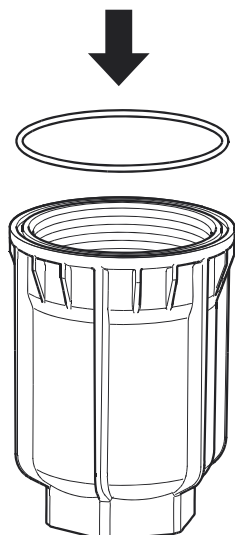

Figure 19 Replace O-Ring
8. Replace the O-ring in the filter housing. See Figure 19.